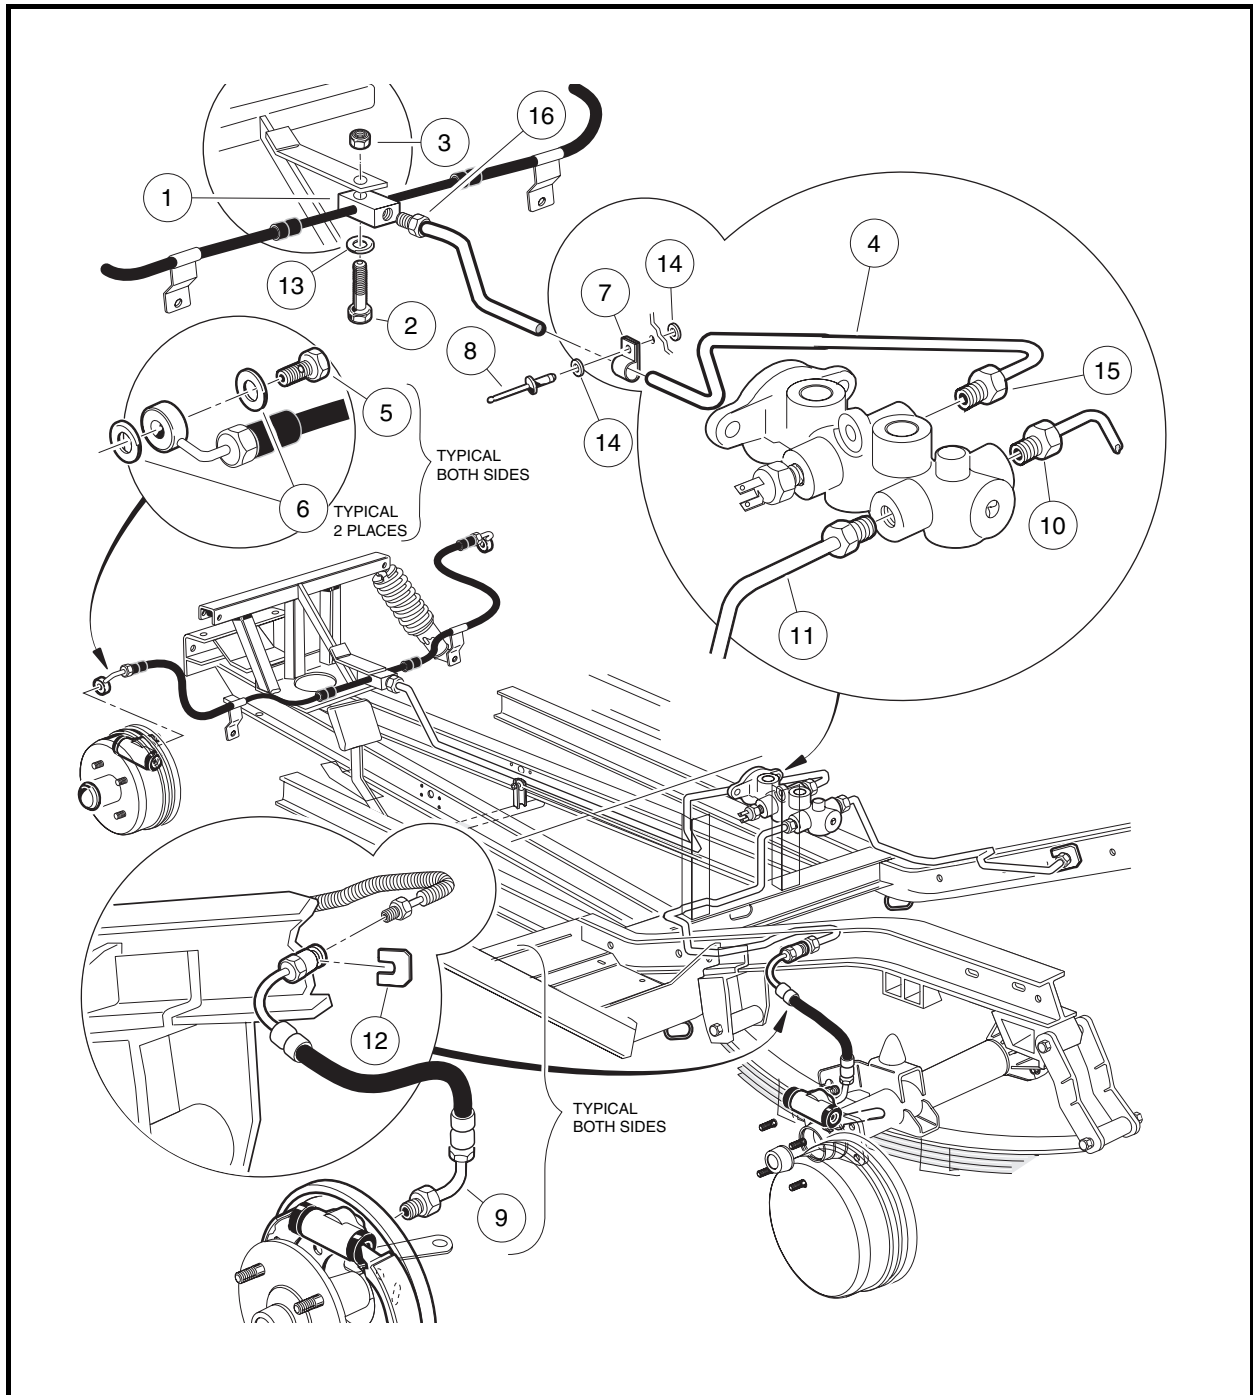
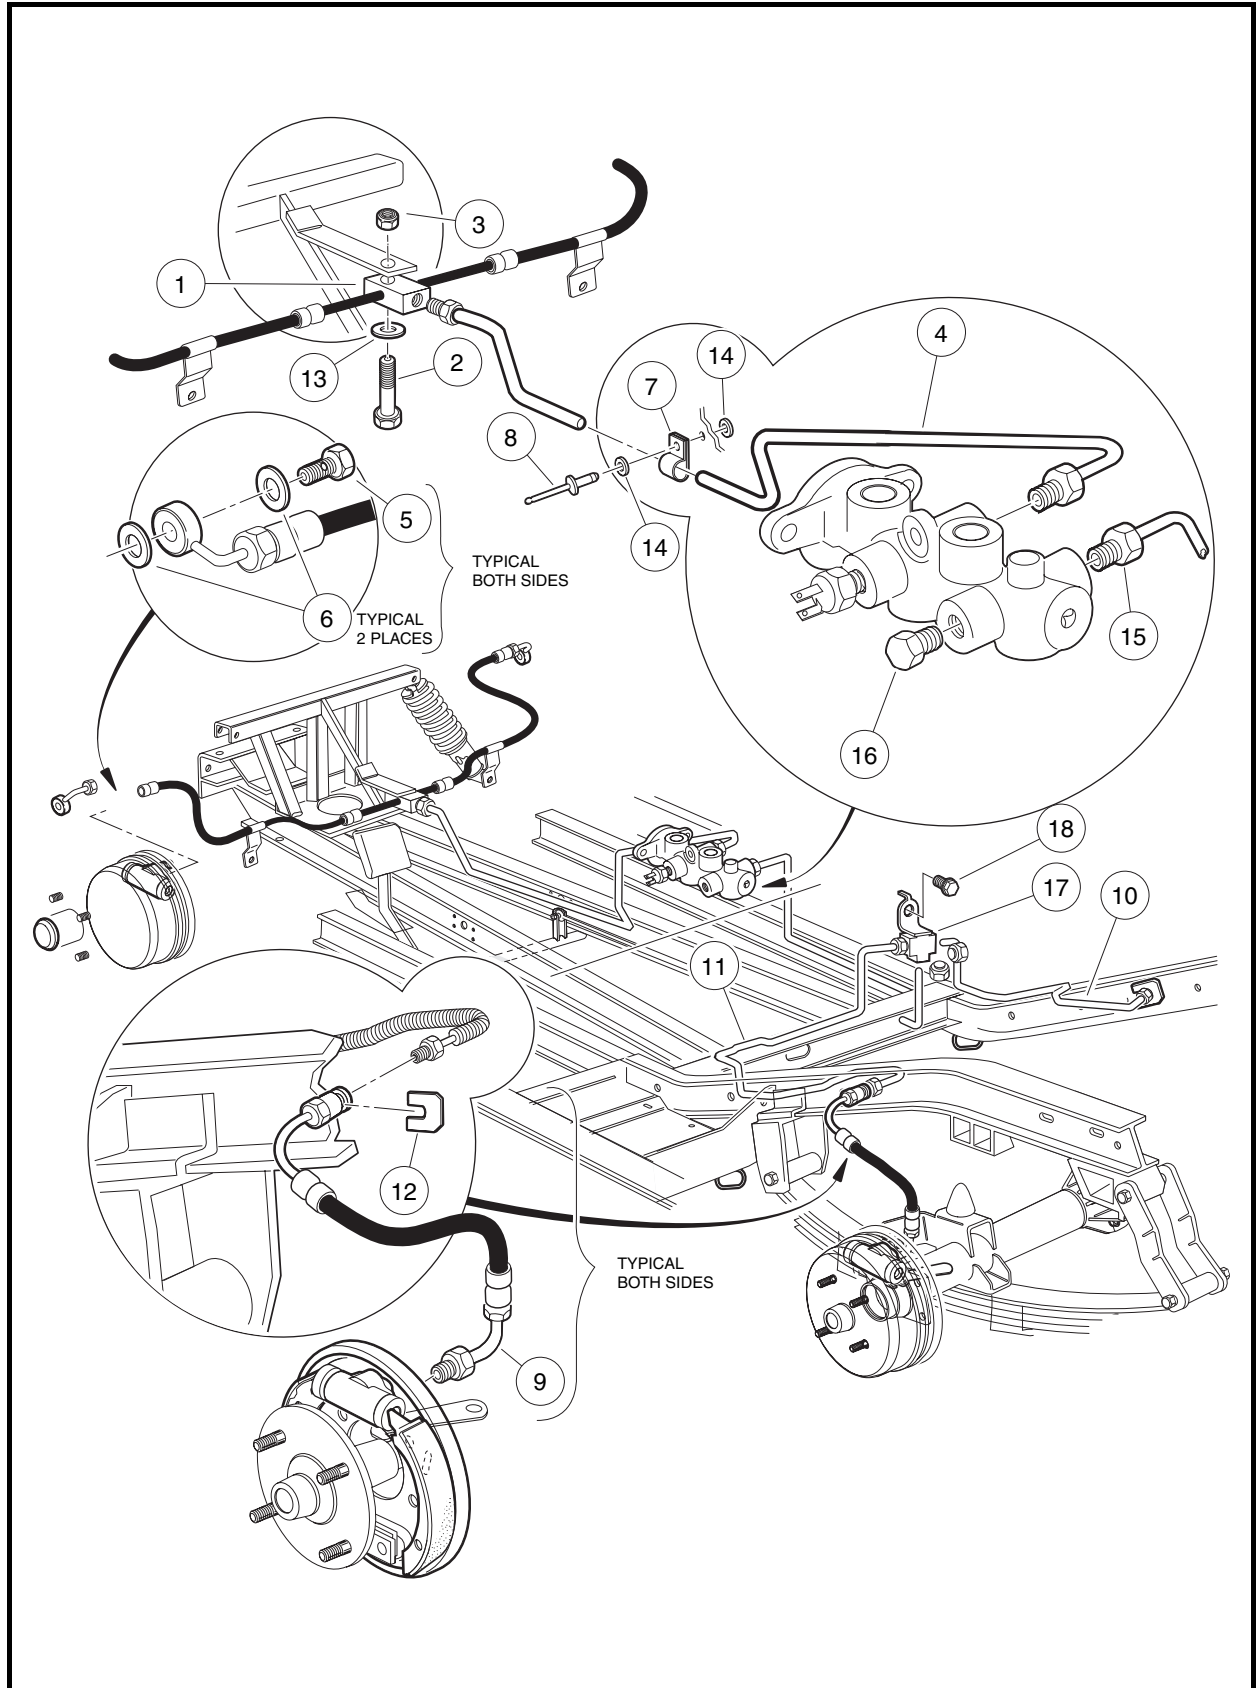
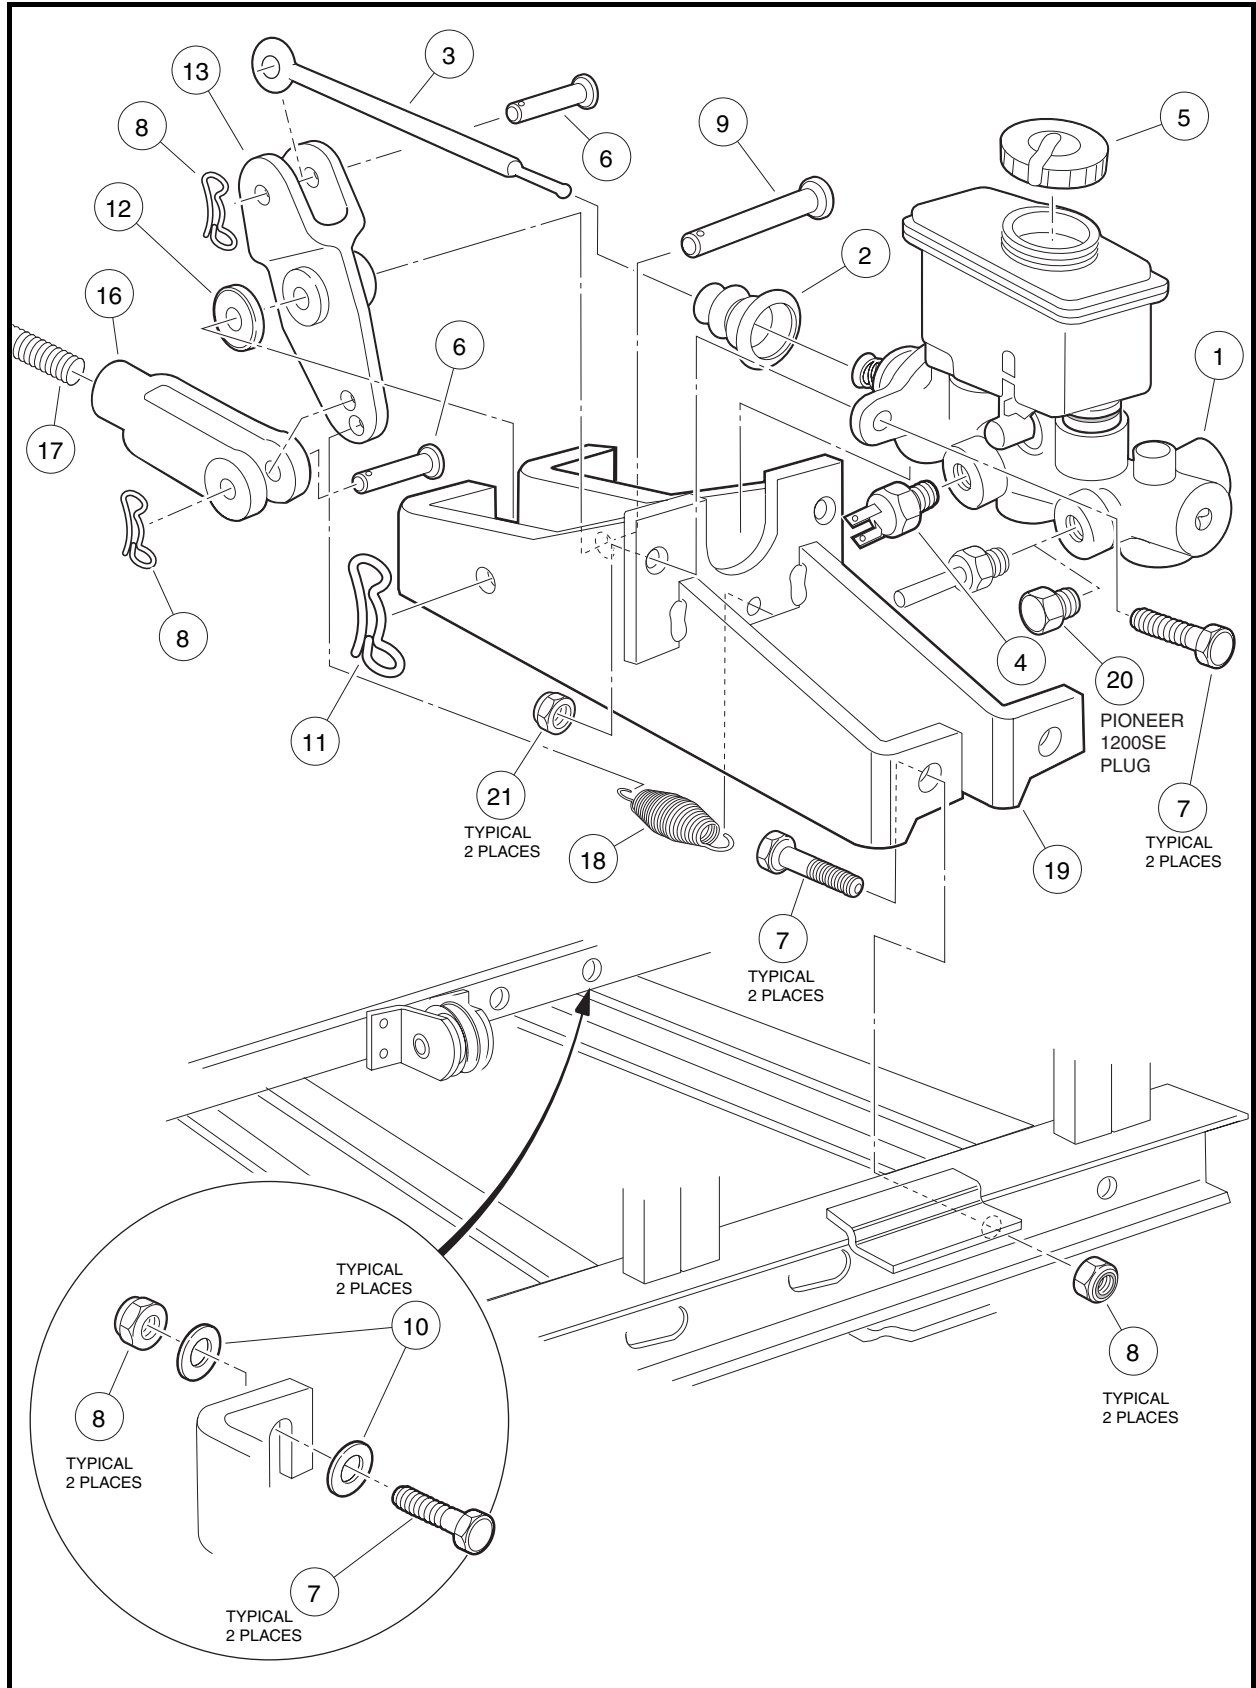

Figure 6-20 Pioneer 1200 Four-Wheel Hydraulic Brake System
Figure 6-21 Pioneer 1200SE Four-Wheel Hydraulic Brake System
Figure 6-22 Master Cylinder
3. Drill the rivet (8) securing the brake line (4) to the vehicle frame (**Figure 6-20, Page 6-25**).
4. Place a pan below the vehicle to collect brake fluid and use a 7/16-inch flare nut wrench to remove front brake line (4) from the master cylinder.
5. Use a 3/8-inch flare nut wrench to remove brake line (4) from the T-manifold block (1).
1. Connect brake line (4) to the master cylinder and finger-tighten (**Figure 6-20, Page 6-25**).
2. Connect brake line (4) to the T-manifold block (1) and finger-tighten.
3. Secure the brake line to the vehicle frame with the P-clamp (7), using a new 3/6 x 3/4-inch aluminum pop rivet (8) and two 3/16-inch rivet washers (14).
NOTE: If either of the two front brake hoses or the T-manifold block (1) are found to be damaged, the entire assembly must be replaced (**Figure 6-20, Page 6-25**).
4. Remove the banjo bolt (5) and two copper washers (6) from the front wheel cylinder assemblies (**Figure 6-20, Page 6-25**). Discard the copper washers (6).
6. Use a 3/8-inch flare nut wrench to remove the brake line (4) from the T-manifold block (1) (**Figure 6-20, Page 6-25**).
7. Remove the bolt (2), washer (13) and locknut (3) that secure the T-manifold block (1) to the shock tower.
1. Install the 1/4-20 x 1-1/4-inch hex-head bolt (2) and nylon locknut (3), washer (13), T-manifold block (1), to frame bracket. Tighten to 76 in-lb (8.6 N·m) (**Figure 6-20, Page 6-25**).
2. Connect brake hoses with new copper washers (6) and banjo bolts (5). Position the elbow of each hose toward the rear of the vehicle. Tighten to 13 ft.-lb (17.6 N·m).
4. Connect the flare fitting on the brake line (4) to the T-manifold block (1). Tighten to 11 ft-lb (14.9 N·m) (**Figure 6-20, Page 6-25**).
- 1.4. Use a 3/8-inch flare nut wrench to remove brake line (10 or 11) from the master cylinder (**Figure 6-20, Page 6-25**).
- 2.4. Use a 3/8-inch flare nut wrench to remove rear brake line (15) from the master cylinder **(Figure 6-21, Page 6-28)**.
- 1.1. Install brake line (10 or 11) to rear brake hose at the I-beam of the vehicle frame and tighten to 11 ft-lb (14.9 N·m) **(Figure 6-20, Page 6-25)**.
- 2.1. Install brake tee (17) to vehicle frame plate using hex-head 1/4-20 x 3/4-inch bolt (18) and tighten to 65 in-lb (7.345 N·m) **(Figure 6-21, Page 6-28)**.
5. Use a 3/8-inch flare nut wrench to remove the rear brake line (10 or 11) from the rear brake hose at the I-beam of the vehicle frame **(Figure 6-20, Page 6-25 or Figure 6-21, Page 6-28)**.
6. Remove the horseshoe clip (12) that secures the rear brake hose (9) to the I-beam frame and remove brake hose (9) through the oval-shaped hole in the vehicle I-beam.
1. Install brake hose (9) through the oval-shaped hole in the vehicle I-beam, and install the horseshoe clip (12) that secures the brake hose to the I-beam frame (**Figure 6-20, Page 6-25 or Figure 6-21, Page 6-28**).
3. Install the rear brake line (10 or 11) to the rear hose (9) at the I-beam of the vehicle frame (**Figure 6-20, Page 6-25 or Figure 6-21, Page 6-28**). Tighten to 11 ft-lb (14.9 N·m).
2. Remove brake rod clevis pin (6), bow tie locking pin (8) and clevis (16) from the bell crank (13) (**Figure 6-22, Page 6-30**).
3. Remove the spring (18) from the bell crank (13) and master cylinder mounting bracket (19).
4. Remove push rod clevis pin (6) and bow tie locking pin (8) from the push rod (3) and bell crank (13).
5. Remove bell crank clevis pin (9) and bow tie locking pin (11) from the master cylinder mounting bracket (19) and remove bell crank (13) and centering spacer (12).
1. Install bell crank clevis pin (9) through the master cylinder bracket (19), bell crank (13), centering spacer (12) and attach bow tie locking pin (11) (**Figure 6-22, Page 6-30**).
2. Install push rod clevis pin (6) through the bell crank (13) and push rod (3) and attach bow tie locking pin (8).
3. Install brake rod clevis pin (6) through clevis (16) and bell crank (13) and attach bow tie locking pin (8).
4. Install spring (18).
3. Remove the two wires from the master cylinder pressure switch (4) (**Figure 6-22, Page 6-30**).